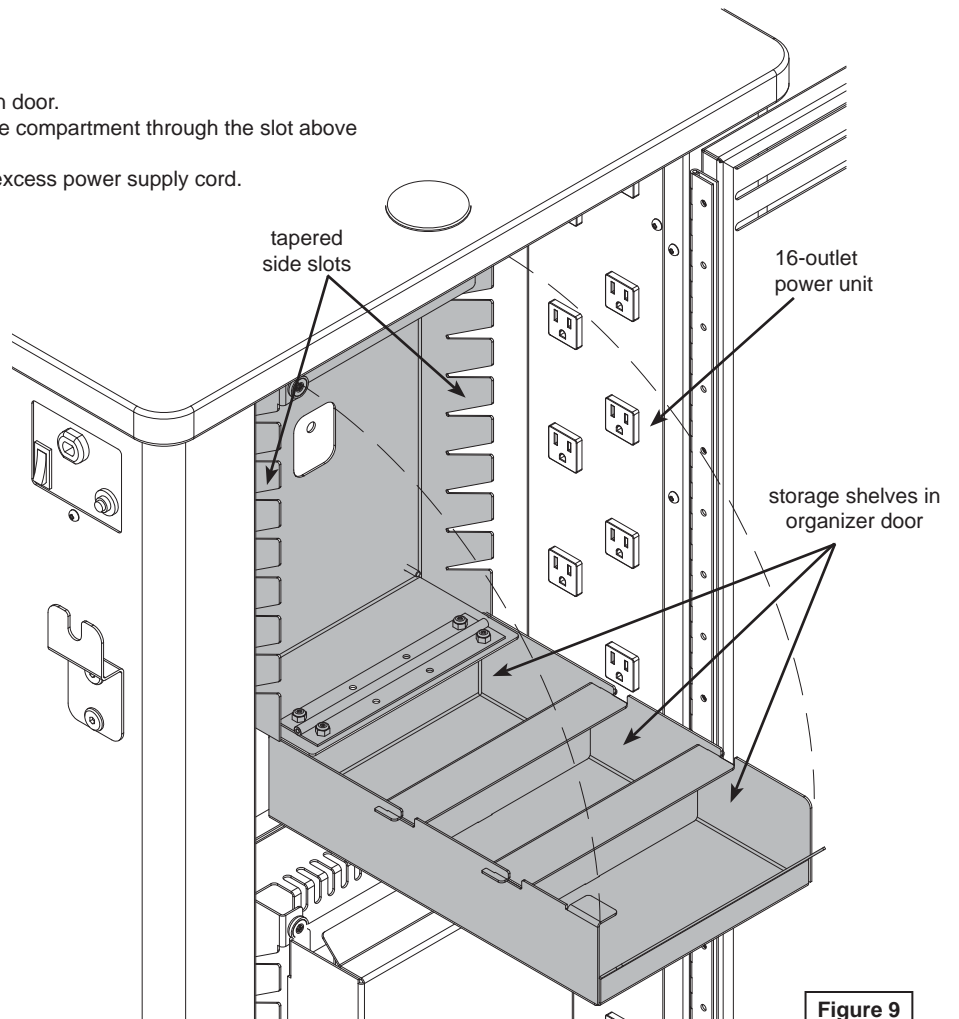

Figure 9
1. Open the organizer door. **Figure 9.**